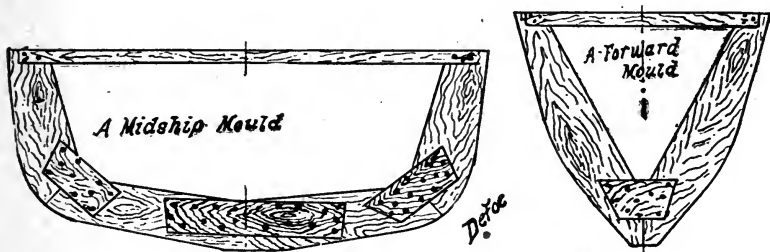

FIG 4.
**Molds**—The next step is to make the molds. They may be made out of any rough cheap stuff, as they are not a part of the boat, but simply forms to build it over. Wide boards will work up handier. Fig. 4 shows two molds. The pattern of but half the mold is given. Cut out one half of the mold and use it to mark the other half by. Get the distance across the top from the pattern, and also mark the center of each mold.